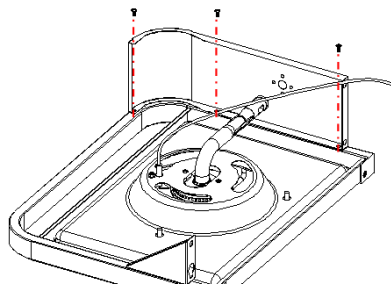

Fig. 15A
*Locate:* Side Burner Control Panel, Side Burner Shelf Assembly and (3) M4x8 bolts
*Procedure:* Attach the Side Burner Control Panel to the Side Burner Shelf Assembly using (3) M4x8 bolts as shown as Fig. 15A.